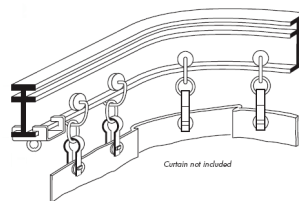

Fig. 2
6. Feed carriers onto the end of the track with one wheel on each side of the center beam support and the loop and shackle hanging down from the track (Fig. 2).
7. Slide end stops onto each end of the track with the body of the end stop resting below the track, and tighten the set screw (Fig. 2).
8. Place pegs of shackles hanging from carriers into holes in shower curtain and tighten provided screw into each hole to lock the curtain into place (Fig. 2).